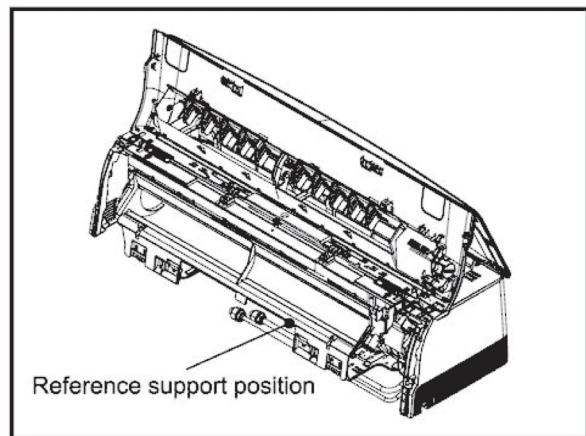
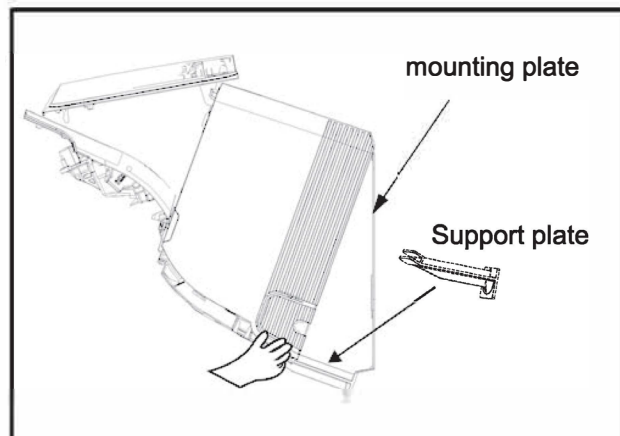

Fig. C. 7.6
Fig. C. 7.7
- 5) Use the support plate to move the unit step by step to reach the best location. (Fig. C. 7.6 and Fig. C. 7.7).